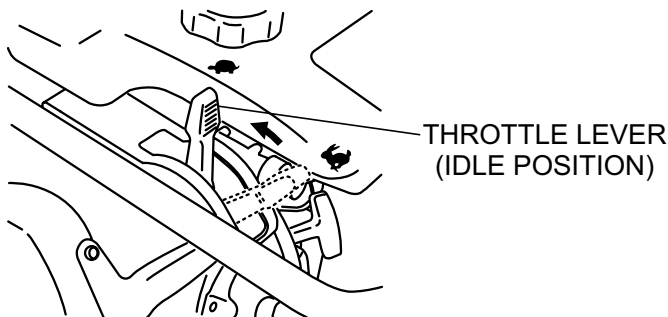
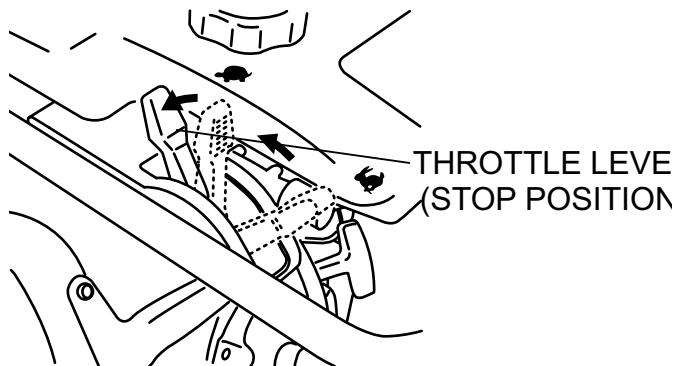

Figure 6. Throttle Lever (Idle Position)
Figure 10. Throttle Lever (Stop Position)
1. Slide the throttle lever from the stop to the idle position (☛) (Figure 6). This opens the fuel cock and the engine electrical circuit is turned on automatically.
3. To stop the tamping action, move throttle lever quickly from **START** to **IDLE** position (Figure 6).
1. Move throttle lever quickly from the **START** to **IDLE** position (Figure 6) and run the engine for three minutes at low speed. After the engine **cools**, move the throttle lever to the **STOP** position (Figure 10). The engine will stop and the fuel cock is automatically closed.